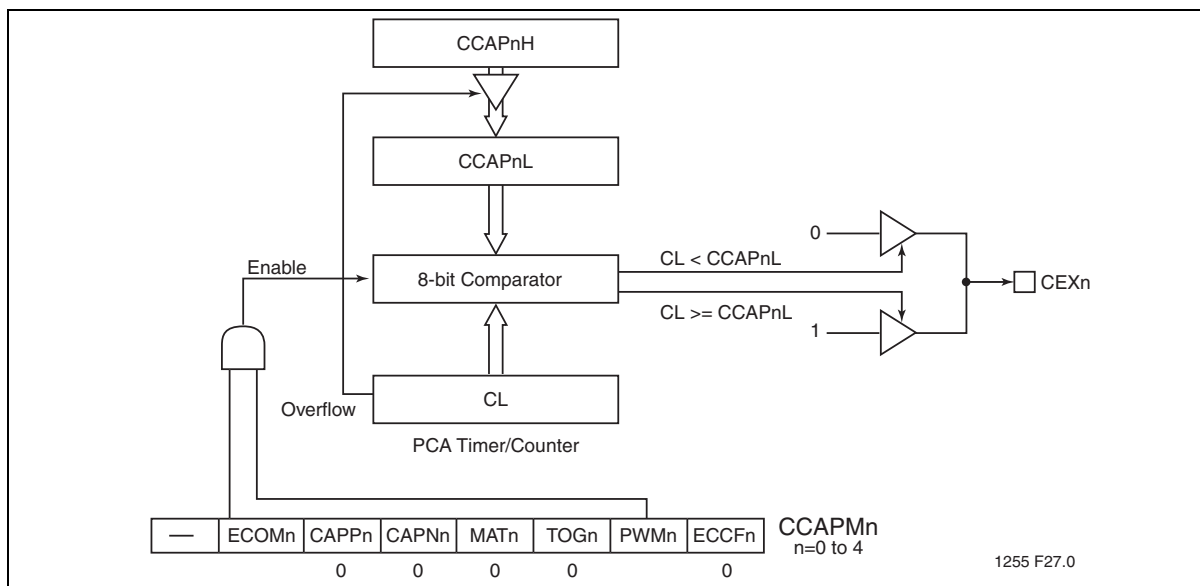

Figure 28:PCA Pulse Width Modulator Mode
The Pulse Width Modulator (PWM) mode is used to generate 8-bit PWMs by comparing the low byte of the PCA timer (CL) with the low byte of the compare register (CCAPnL). When  $CL < CCAPnL$  the output is low. When  $CL \geq CCAPnL$  the output is high. To activate this mode, the user must set the PWM and ECOM bits in the module's CCAPMn SFR. (See Figure 28 and Table 23)